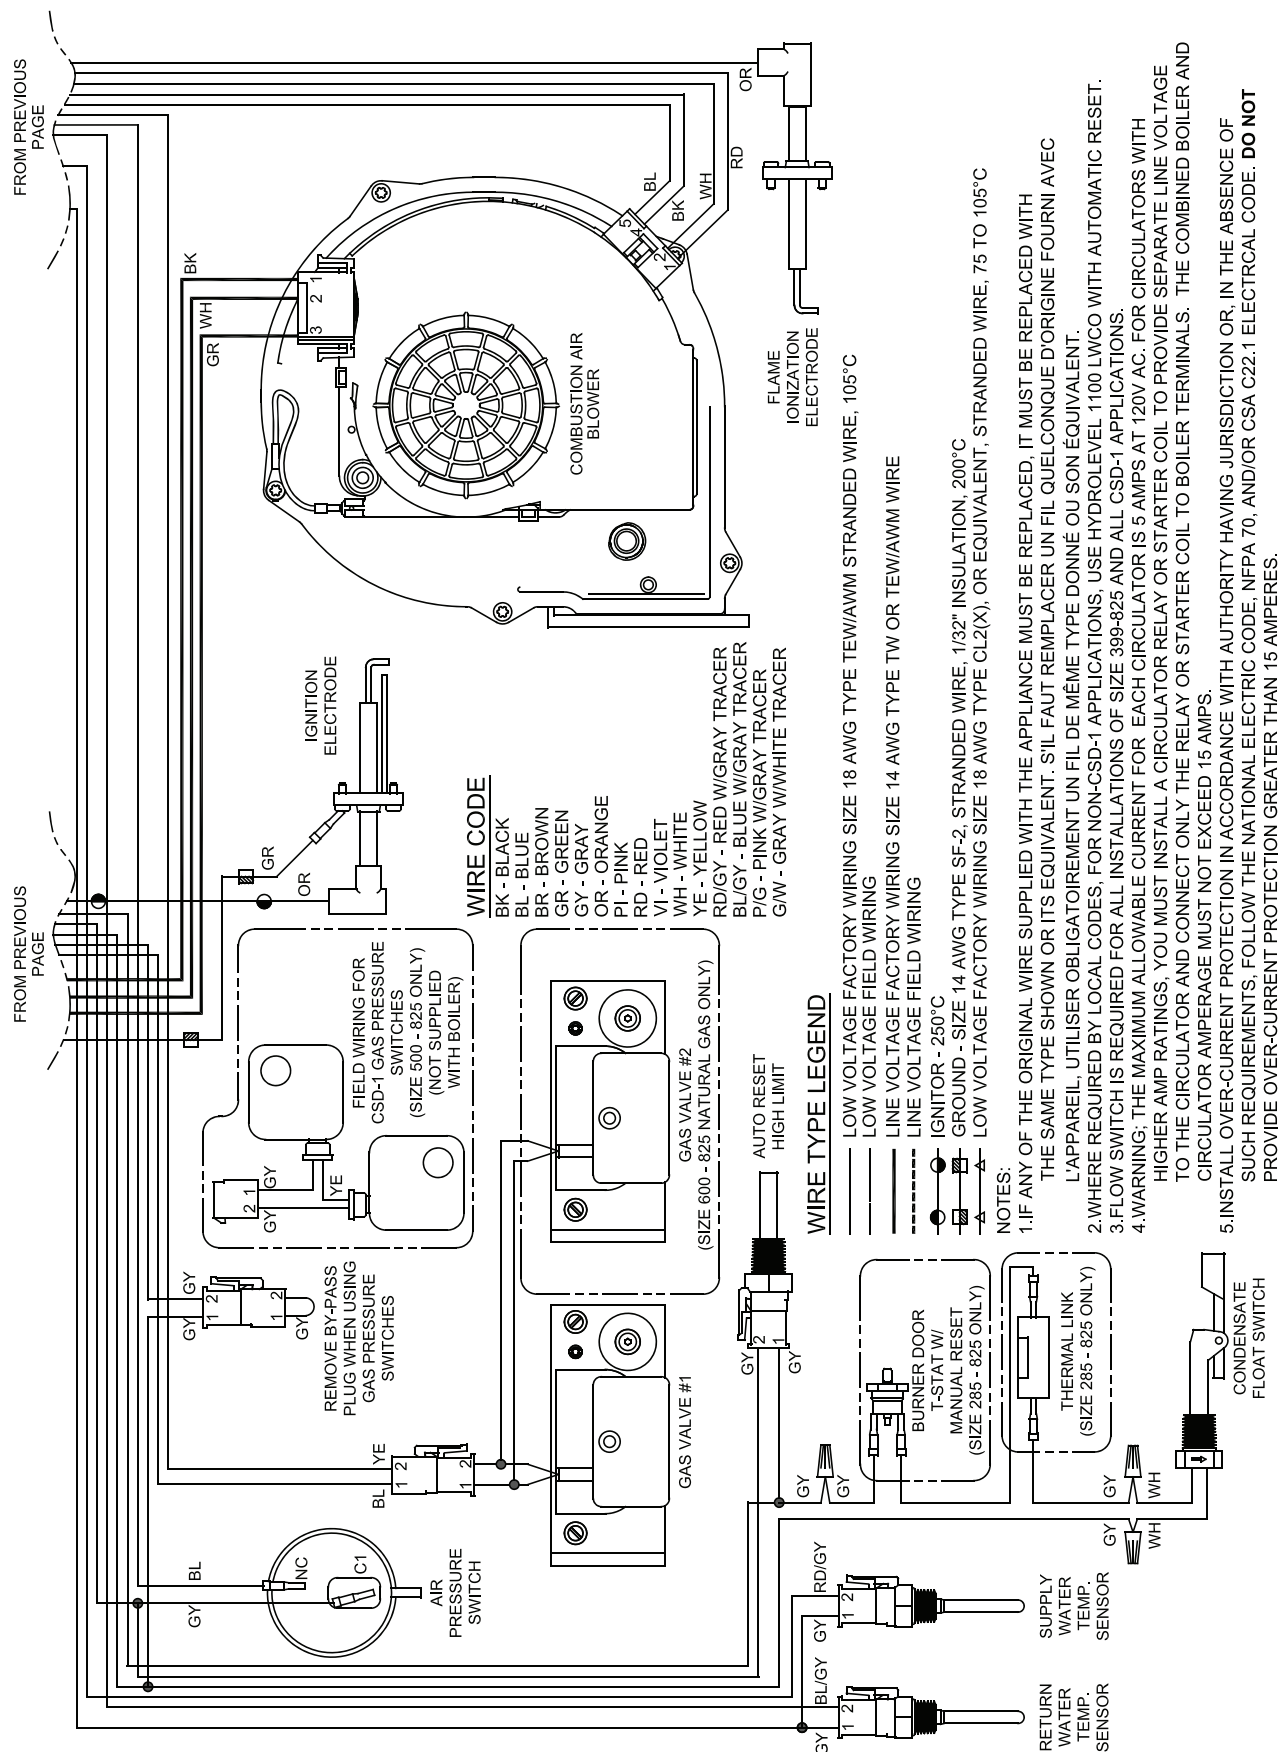

Figure 27: Wiring Connection Diagram
- C. Refer to Figures 27 and 28 for details on the internal boiler wiring.**
Line Voltage (120 VAC) Connections - see Figure 27.
Low Voltage (24 VAC) Connections - see Figure 27.
Alternately, the network can be wired together by simply wiring terminal J3, Modbus 2, terminals A, B and V- between each boiler. Refer to Figures 27 and 28 terminal J3 for wiring location.